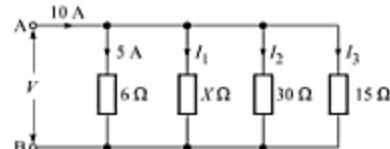

Fig. 2.43
17. In the network shown in Fig. 2.43, calculate (a) the current in the other resistances, (b) the value of the unknown resistance  $X$ , and (c) the equivalent resistance between points A and B.